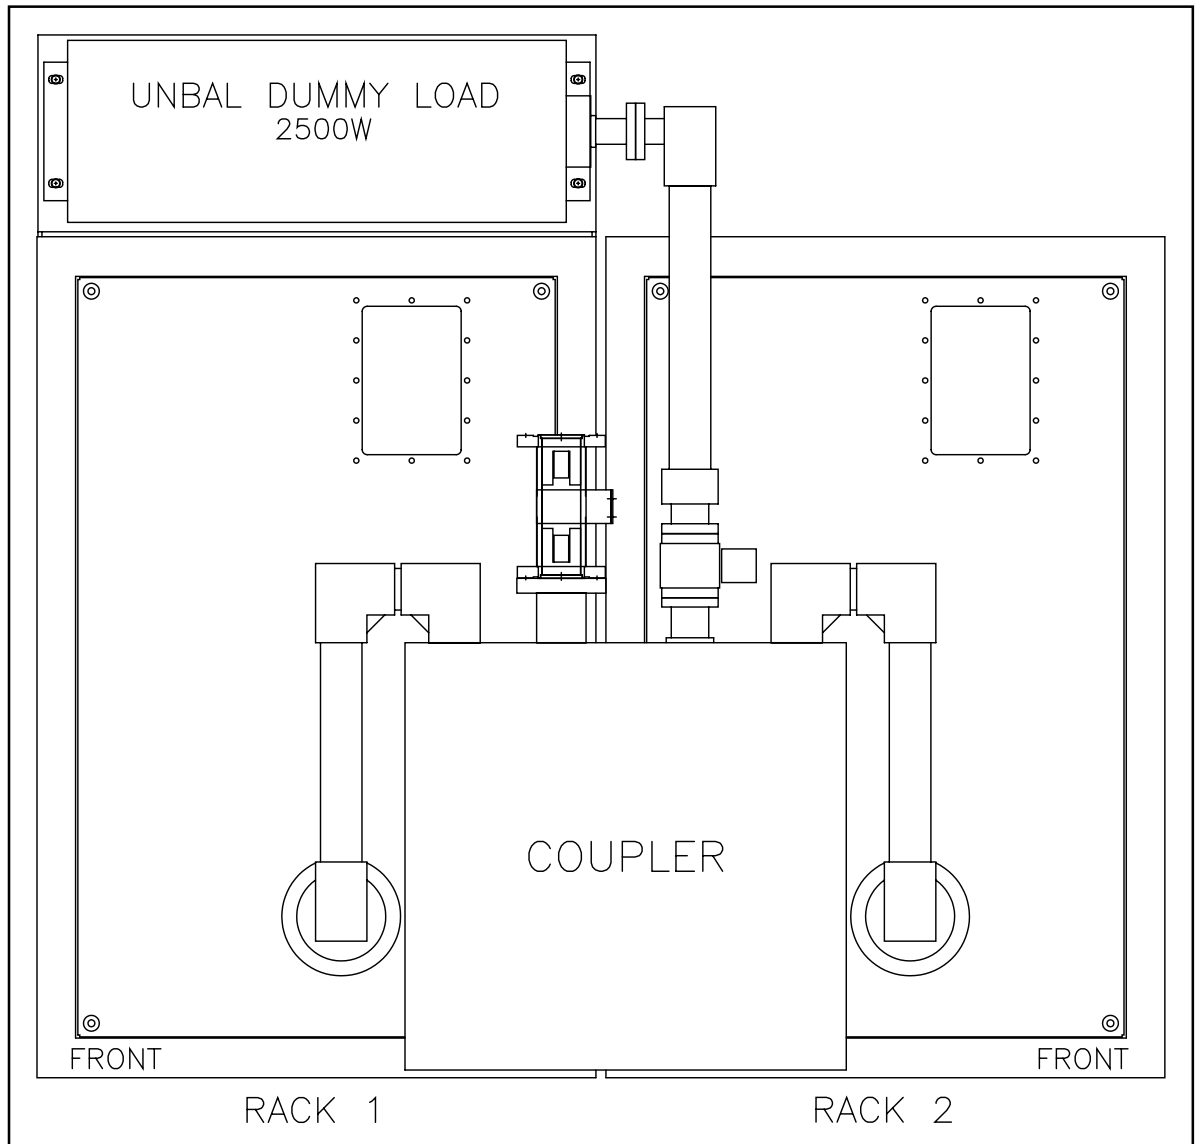
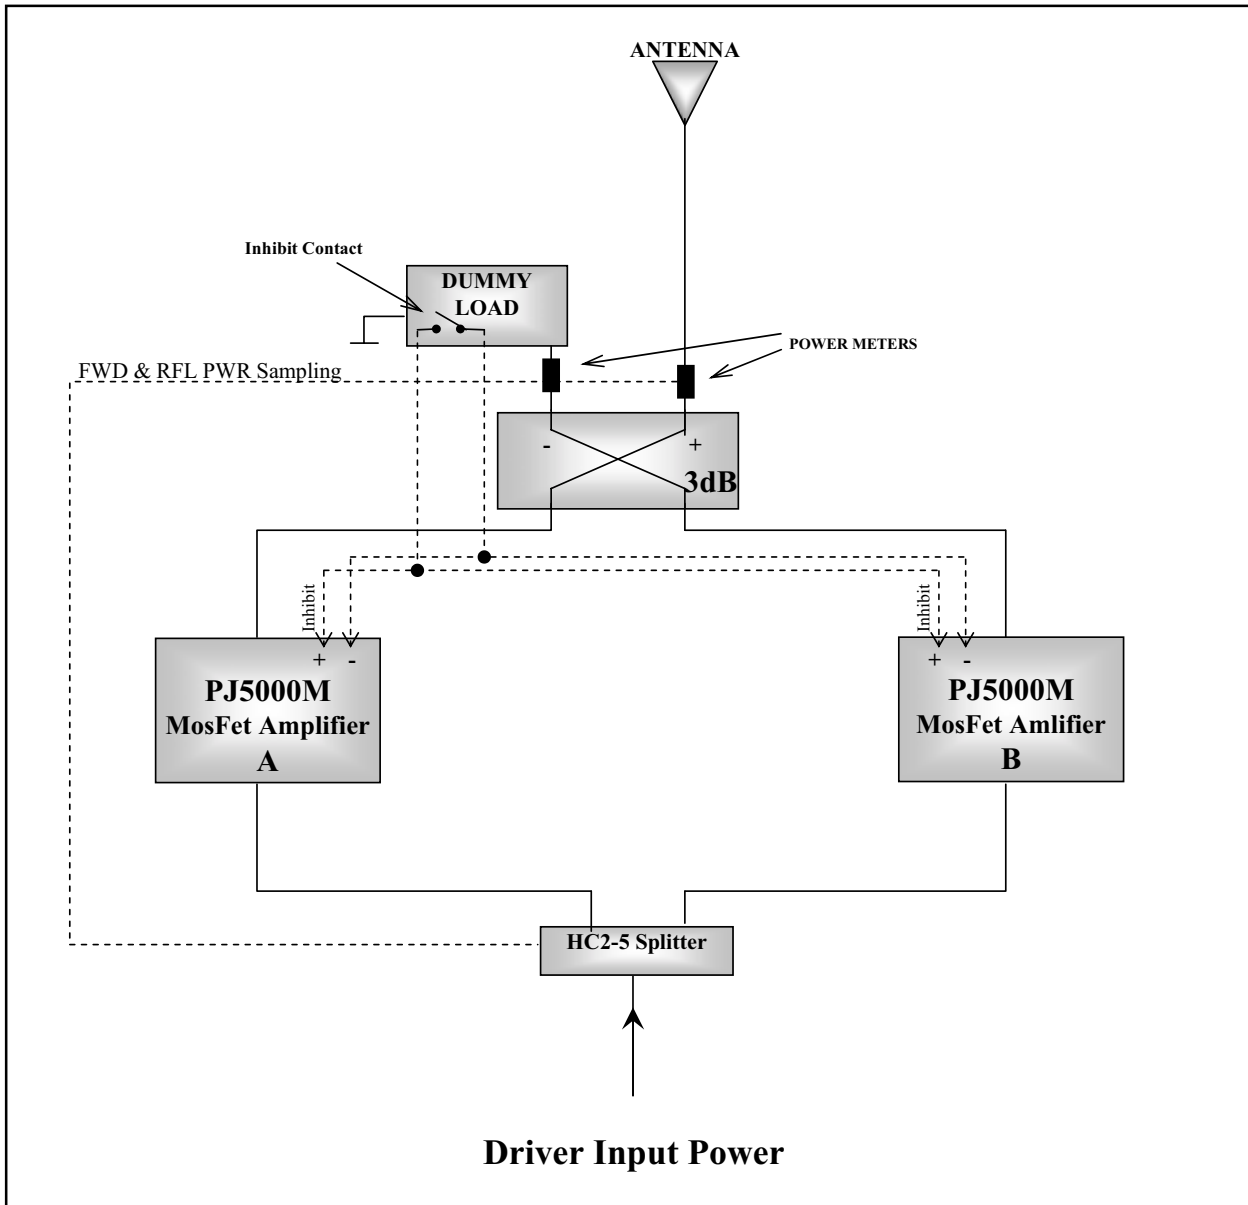
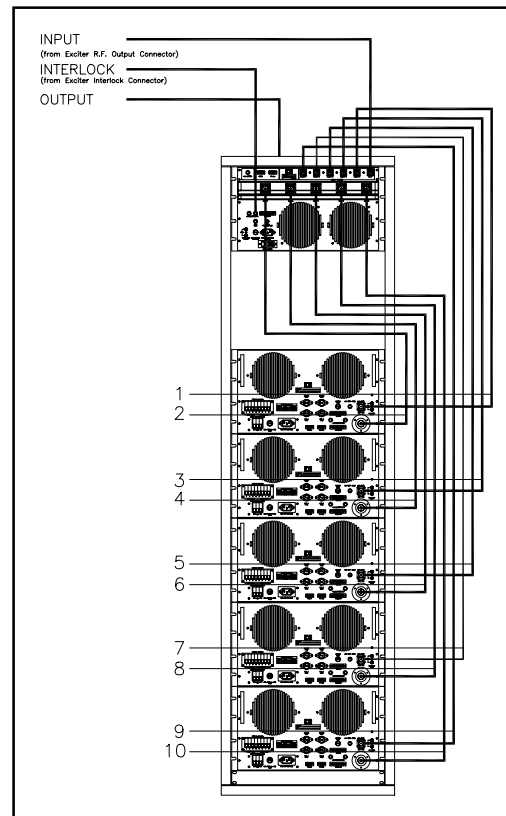

Figure 3
Figure 4
Figure 5
- Check carotid pulse (**Figure 3**); if pulse is absent, begin artificial circulation (**Figure 4**) depressing sternum 1 1/2" TO 2" (**Figure 5**).
The following description is based on the block diagram given in Figure 5. The configuration of the PJ10KPS is designed to minimize the risks of service interruptions, thanks to redundancy of the components and of the design.
The diagram of the connections between the components of the each PJ5000M, that composed the PJ10000M, is shown in Figure 5.
- 1) With the help of Figure 5, verify that all the connections are in perfect condition.
- 3) Make the connections of the cables as shown in Figure 5.